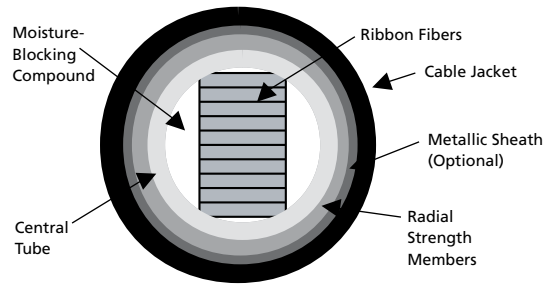

Figure 3
- Ribbon in central tube (RCT) outside plant (OSP) – see Figure 3